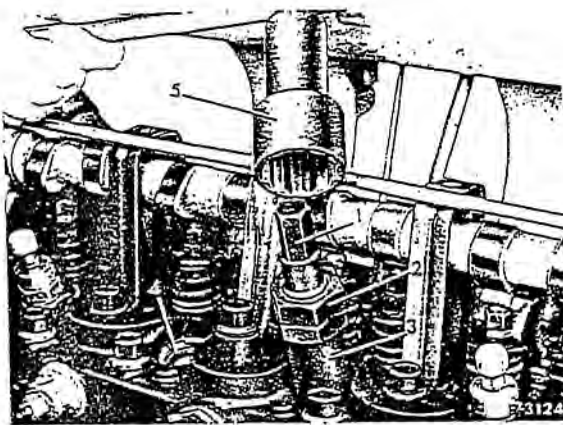

Fig. 01-5/1
The glow plug must be removed because the heater coil projecting into the pre-chamber will be sheared off when the pre-chamber is pulled out (Fig. 01-5/3).
1. First of all unscrew the pre-chamber threaded ring (4), using spindle (1), sleeve (3) and socket-wrench head (5) (Fig. 01-5/1). These parts are used in the following way: Push sleeve (3) and spindle (1) together. Then screw the spindle into the threaded ring as far as possible and fit the sleeve into the groove of the threaded ring. With the hand, screw the hexagon nut (2) on the spindle to the point at which the flats of the nut are aligned with those of the sleeve and the socket wrench (5) can be slipped over the two hexagon contours.